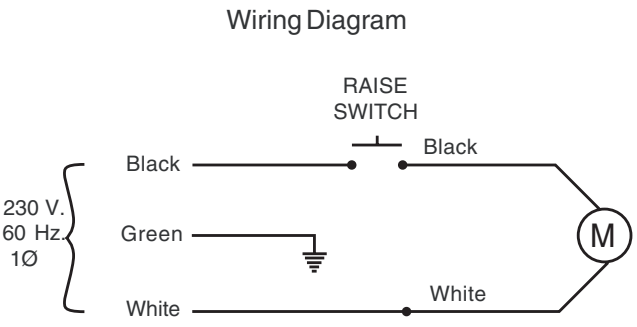

Fig. 18
- 10. Electrical:** Have a certified electrician run 230 volt single phase 60 Hz. power supply to motor, Fig.18 and 19. Size wire for 20 amp. circuit. See Motor Operating Data table.